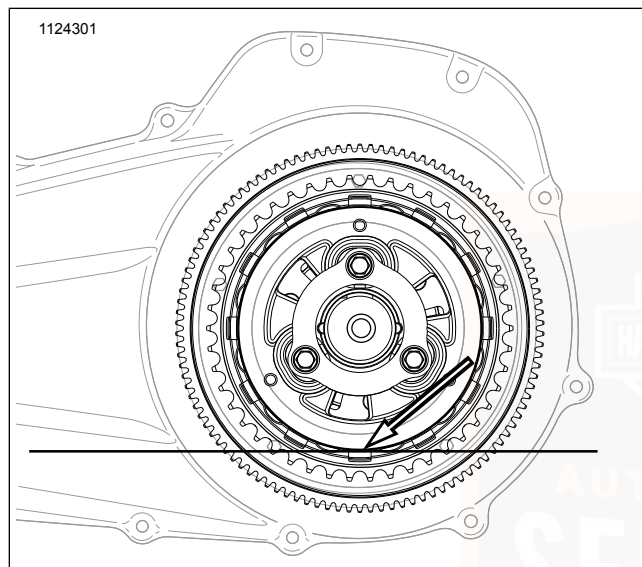

Figure 91. Primary Lubricant Level
- b. See Figure 91. Proper level is approximately at bottom of pressure plate OD.